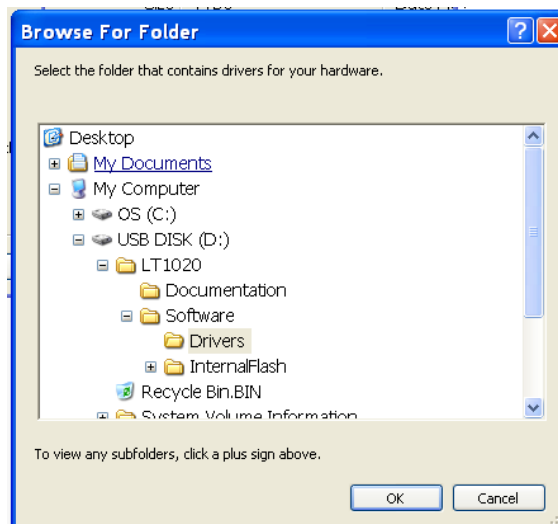

Figure 22 - Hardware Update Wizard (Step 4)
4) Insert the Start-up CD in the Light Touch™ pack. Browse and select the directory as shown in Figure 22. (Note : the drive letter will vary from PC to PC).